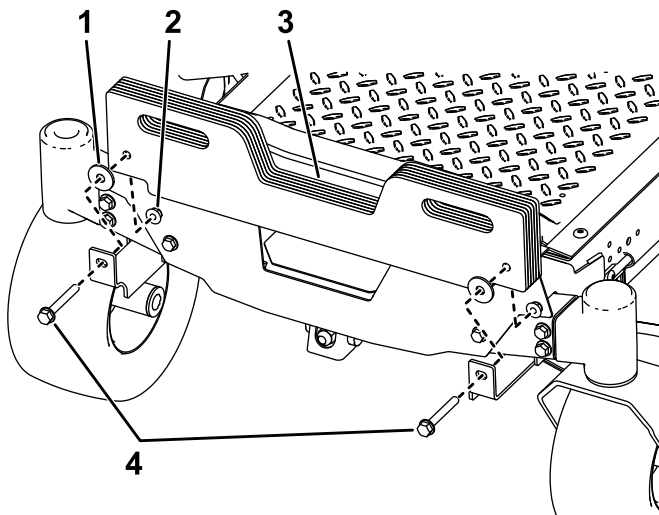

Figure 5
2. Install the suitcase weights to the weight mounting brackets using 2 bolts (5/8 x 2-3/4 inches), 2 washers, and 2 locknuts (3/8 inch) as shown in Figure 5.